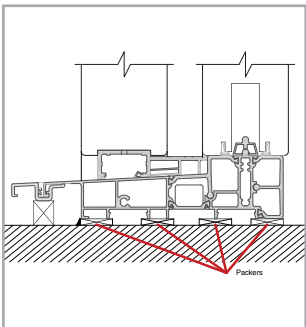

Figure 20: Packing locations to support a door cill
- Step 3** - If the door frame is fitted with an extended cill it is important to check that it is adequately supported as shown in Figure 20.